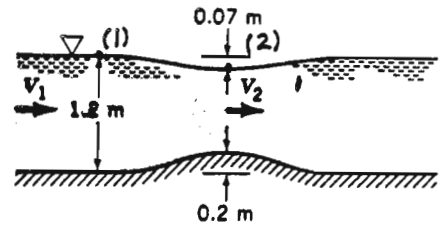

FIGURE P3.109
**3.109** The flowrate in a water channel is sometimes determined by use of a device called a Venturi flume. As shown in Fig. P3.109, this device consists simply of a hump on the bottom of the channel. If the water surface dips a distance of 0.07 m for the conditions shown, what is the flowrate per width of the channel? Assume the velocity is uniform and viscous effects are negligible.